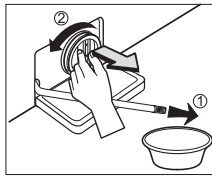

Fig. 17
- Carefully unscrew the coin-trap cover. **Warning: Some residual water will flow out. (Approx. 1 Cup)** Fig.17